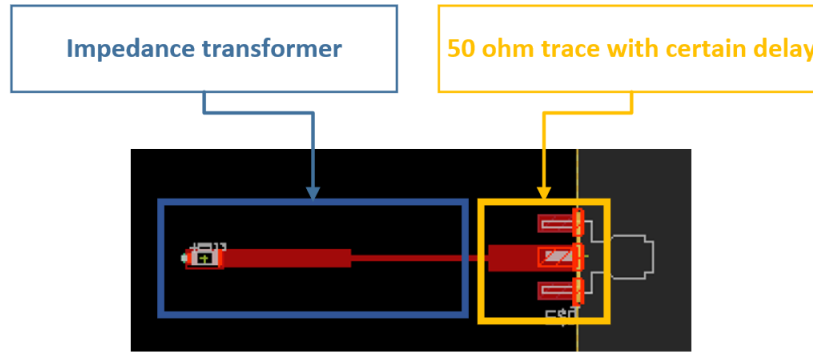
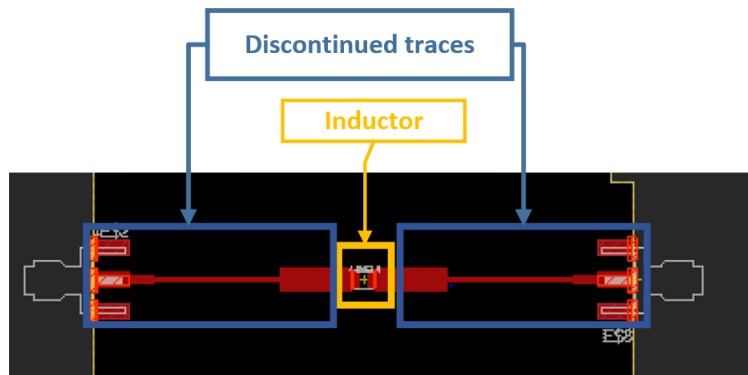

Figure 2: Embedded impedance transformer (DUT 4)
Figure 3: Embedded inductor (DUT 2)
You will practice with these techniques on the microstrip student unknowns, which you are much familiar with by now. DUT 4 (1 port) is an impedance transformer embedded with a 50 ohm trace with certain delay shown in Figure 2. DUT 2 (2 port) is a inductor embedded between 2 discontinued traces shown in Figure 3.
2. Given center frequency = 2.5GHz, physical length = 343 mil and dielectric constant (ϵ_r) = 4.29, calculate the **phase shift (degree)** and **electrical delay (ps)** for the extended 50Ω trace of DUT 4 (the part with yellow box in Figure 2). You may use the following equations: